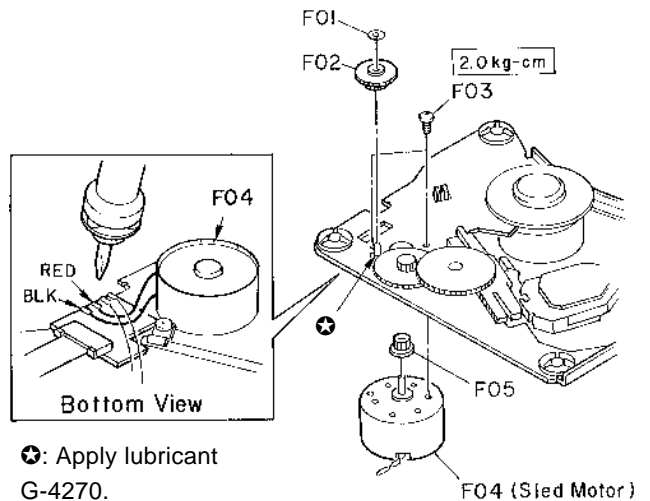

Fig. 1.9.1
Refer to Fig. 1.9.1.
- (1) Reassemble F04 (Sled Motor) with screws F03 (2 pcs.) with a torque of 2.0 kg-cm.
- NOTE:** Pay attention to the sled motor installing direction. Install it as shown in Fig. 1.9.1.